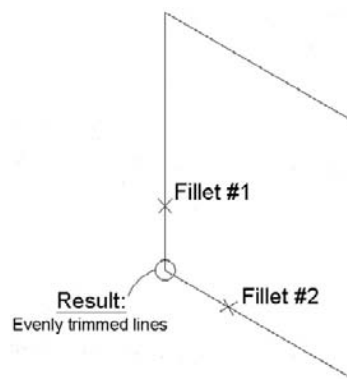

FIGURE 20.5
- Step 6.** Now, use the fillet command to fillet the line between Clicks 4 and 5 and Clicks 1 and 2. What is shown in Figure 20.5 is the result.